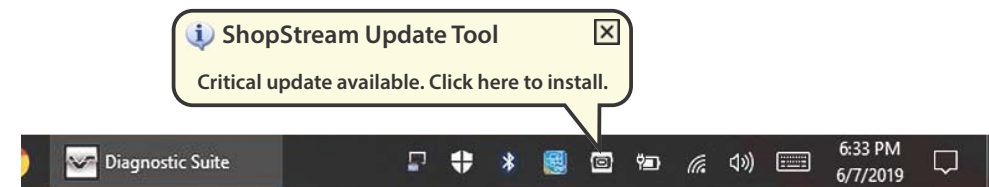

Figure 14-7 Typical update installation message
When a software update is ready for installation, an installation update message will appear (Figure 14-7). You can select the message or the SST icon from the Windows taskbar notification area at anytime to start the software update installation process.
1. Select the software update available message (Figure 14-7), or the SST icon from the notification area.